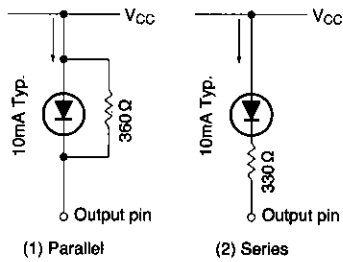

Fig. 3
The response time (attack and release time) can be changed by varying the values of C_1 and C_2 . C_2 is a coupling capacitor, and the potentiometer VR varies the input level. Input a fixed voltage level and adjust the potentiometer so that the LED lights at 0dB. To reduce the LED current, connect a resistor either in parallel (Fig. 3 (1)) or in series (Fig. 3 (2)) with the LED.